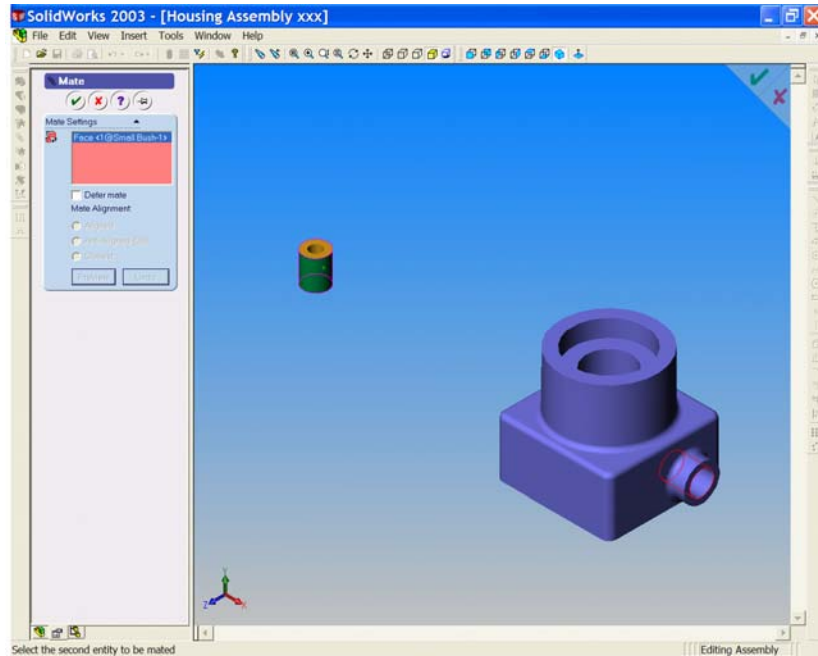

Figure 10
7. Place the cursor on the outer cylindrical surface of the small bush, and left click to select it. The surface is highlighted, the cursor flag is visible and the selected surface is added to the 'Entities to mate' window. Now place the cursor on the small bore at the right side of the housing. See Figures 10 & 11.